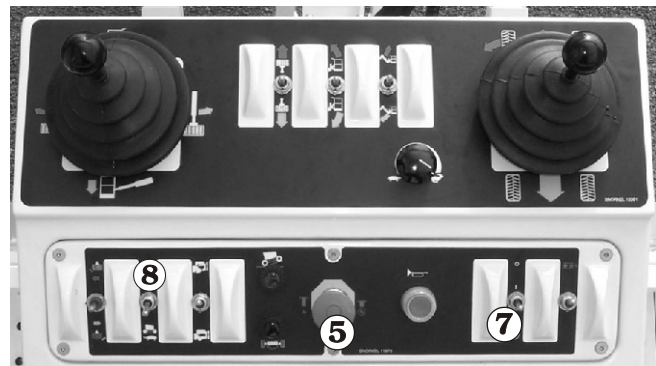

Figure 7.3—Platform Controls (Electric Controls)
5. Pull the emergency stop button^⑤ out (refer to Figure 7.3 and 7.4).
2. Press the range switch ⁸ (see Figure 7.3 and 7.4) to change the drive system from low speed, high torque operation to high speed, low torque operation.